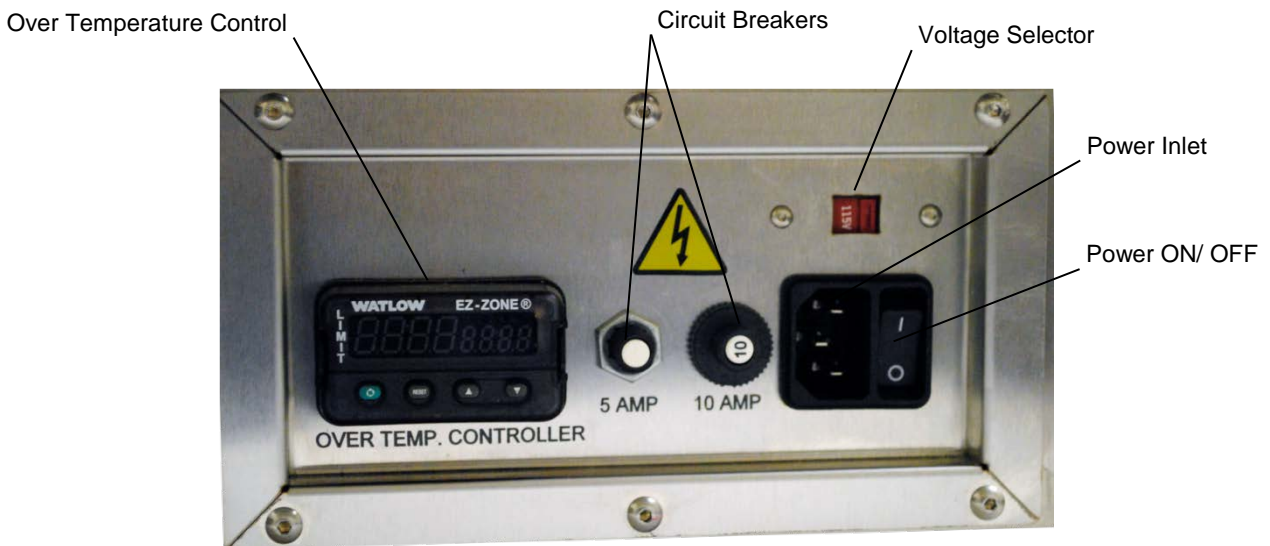

Figure 5-2 Rear Control Panel
2. Make sure that the voltage selector switch (Figure 5-2) is set to the correct voltage based on the available power. The two options are 115V and 230V AC.